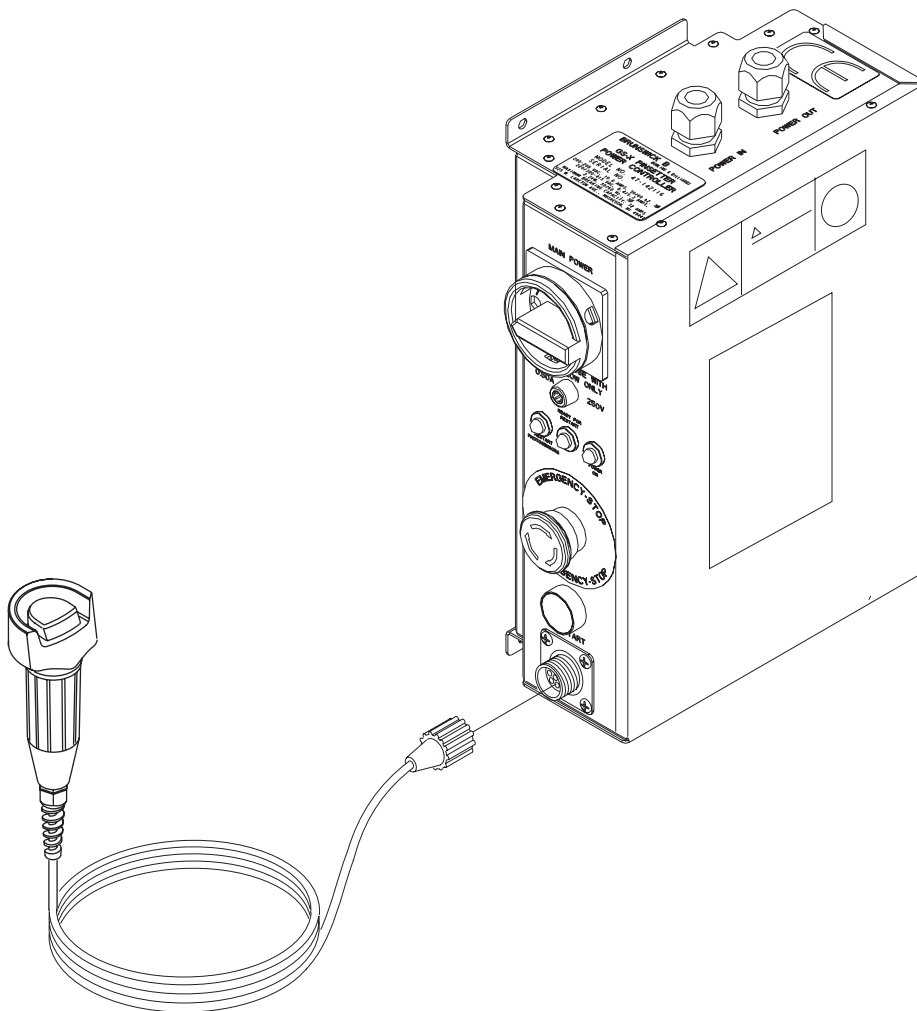
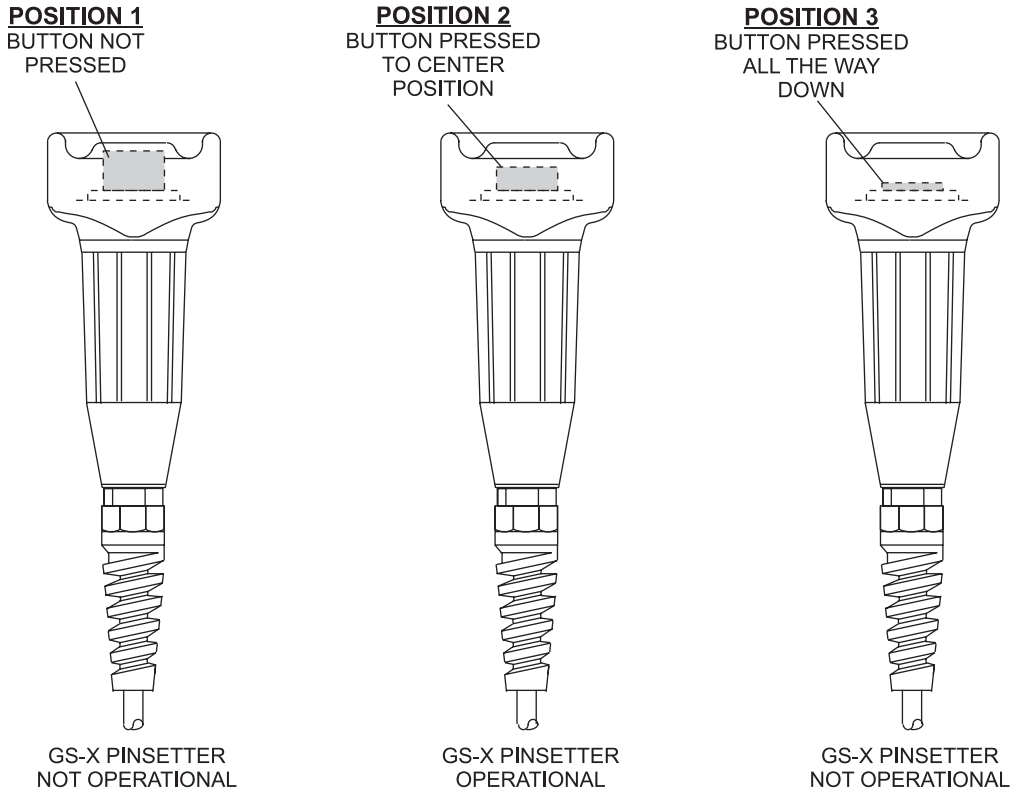

Figure 6
Figure 7
The Hold-to-Run switch has three positions that provide three pinsetter conditions. Positions 1 (not pressed) and 3 (pressed too far) removes power from the pinsetters. Position 2 (middle position) allows the mechanic to operate the pinsetters with the safety sensors bypassed. Since position 2 allows unprotected operation of the pinsetters, the pinsetters should be considered as being in a dangerous state whenever the switch is in position 2. Additional safety precautions should be used. Refer to *Figure 7*.
2. Connect the hold-to-run switch to the safety controller (refer to page 4, Figure 6). Operate the switch and verify all three positions of the switch (refer to page 5, Figure 7) perform correctly.